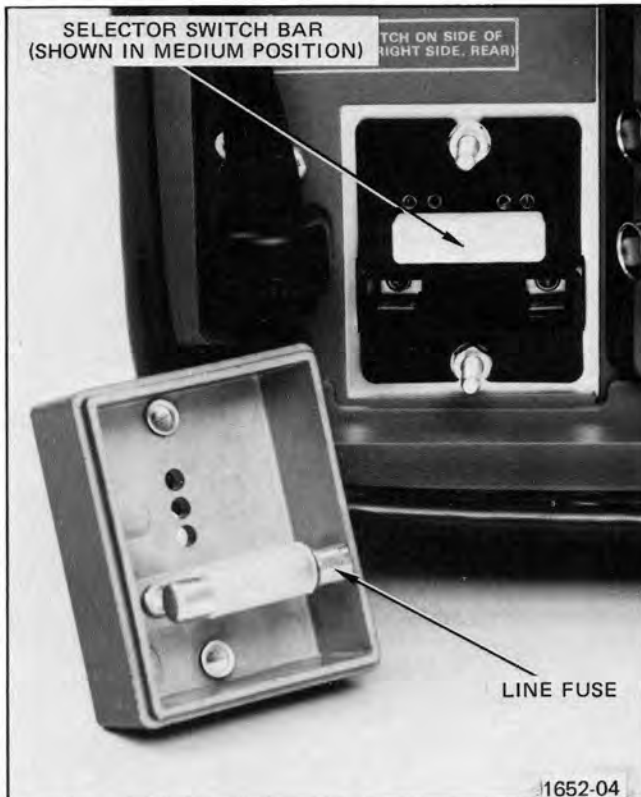

Fig. 2-1. Regulating range selector and line fuse.
3. Pull out the range selector switch bar (see Fig. 2-1). Select a range from Table 2-1 that is centered about the average line voltage. Slide the bar to the desired position and plug it in. Push the cover on and tighten the screws.
51. LINE FUSE HOLDER — Contains the line fuse and the regulating range selector. See Fig. 2-1 for change information.
52. REGULATING RANGE SELECTOR — Shown in Medium regulating range. See Fig. 2-1 for change information.